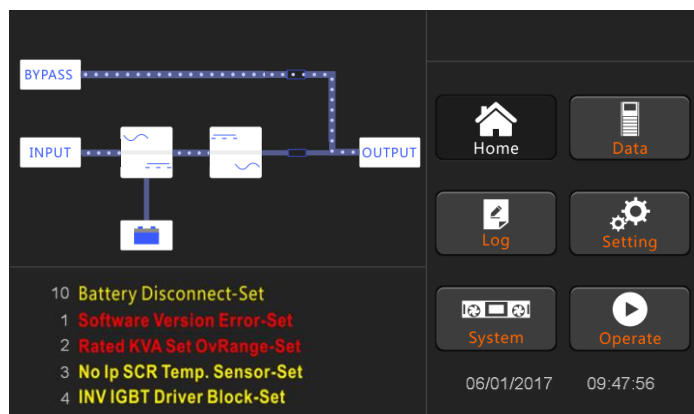

Fig.4-3 Interface of inverter starting
6. After the bypass static switch is on, the inverter starts and the inverter indicator bar flashes as shown in Fig.4-3.